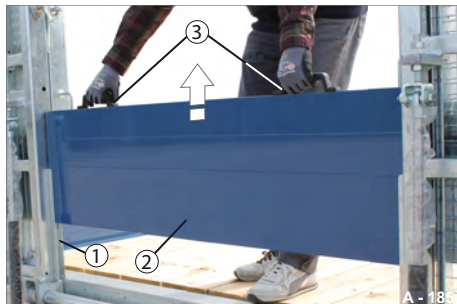

Fig. 194 Removing the slot-in platform gate
- Pull the slot-in platform gate (Fig. 194/2) by the two handles (Fig. 194/3) simultaneously out of the slot-in rails (Fig. 194/1) fully.
- Grip the slot-in rear platform gate (Fig. 194/2) by the two handles.
- Slot the slot-in platform gate simultaneously into the left and right slot-in rails (Fig. 194/1).